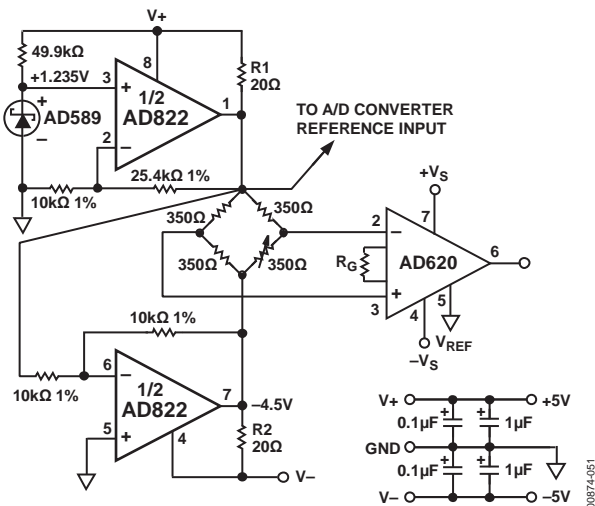

Figure 50. Low Dropout Bipolar Bridge Driver
The AD822 can be used for driving a 350 Ω Wheatstone bridge. Figure 50 shows one half of the AD822 being used to buffer the AD589, a 1.235 V low power reference. The output of 4.5 V can be used to drive an analog-to-digital converter (ADC) front end. The other half of the AD822 is configured as a unity-gain inverter and generates the other bridge input of -4.5 V. Resistor R1 and Resistor R2 provide a constant current for bridge excitation. The AD620 low power instrumentation amplifier is used to condition the differential output voltage of the bridge. The gain of the AD620 is programmed using an external resistor (RG) and determined by